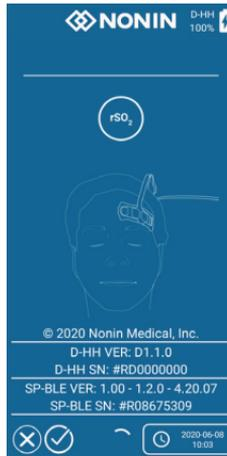

Figure 20. Start-Up Screen - Select File Delete Confirm icon
2. Tapping the File Delete icon **once** will cause the Delete button and File Transfer button to be replaced by the 'check mark' and 'X' icons shown in **Figure 20**.